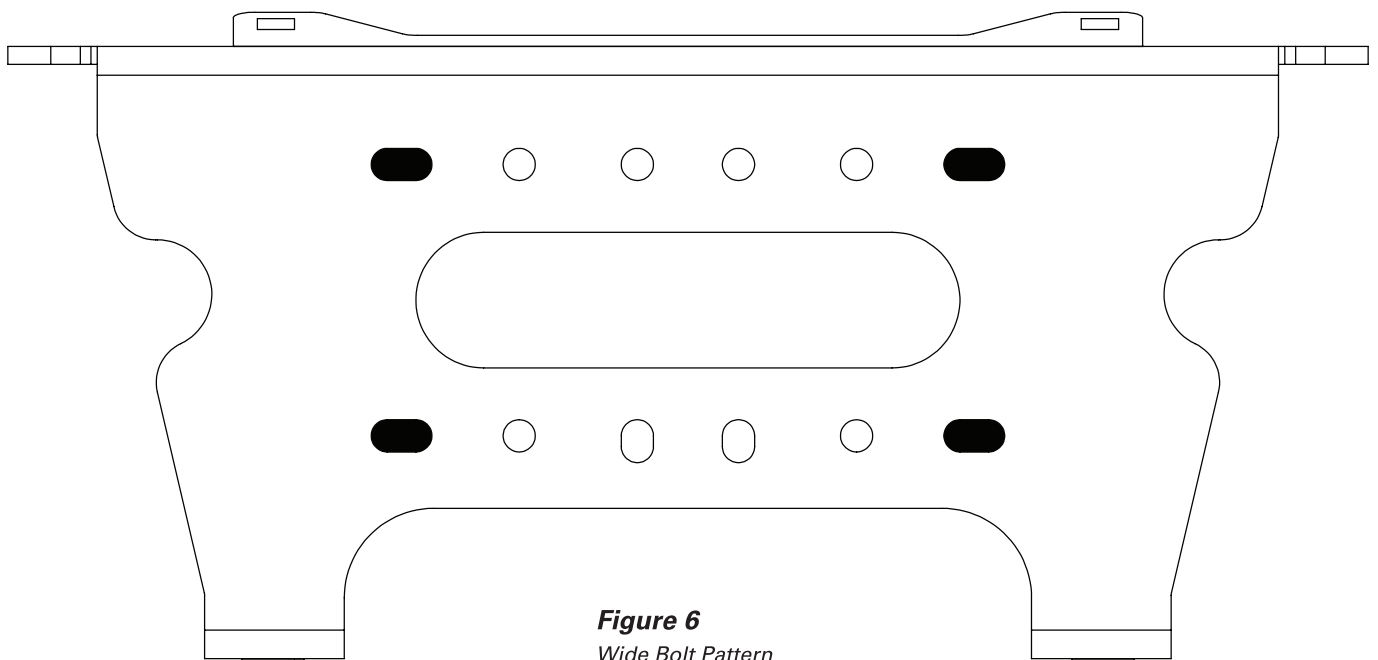

Figure 6
- Wide Bolt Pattern (3.00" x 6.60") (Fig. 6)